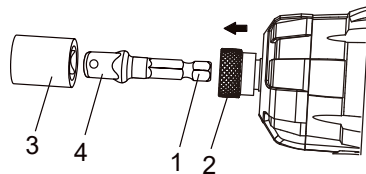

Fig. 12
1. Insert the hex end of the socket adapter (1) into the hex drive (2) (Fig. 12).
3. Push the square end of the socket (3) onto the matching square end of the adaptor (4).